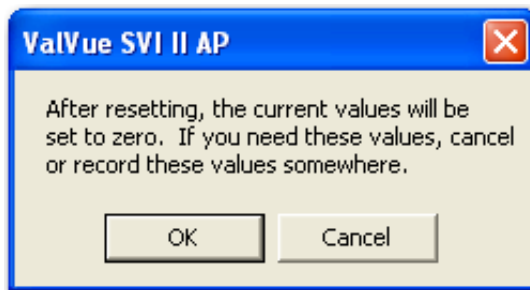

Figure 132 Diagnostics Reset Continuous Diagnostics Dialog
1. Select **Reset Continuous Diagnostics** from the *Diagnostics* context menu and Figure 132 appears.